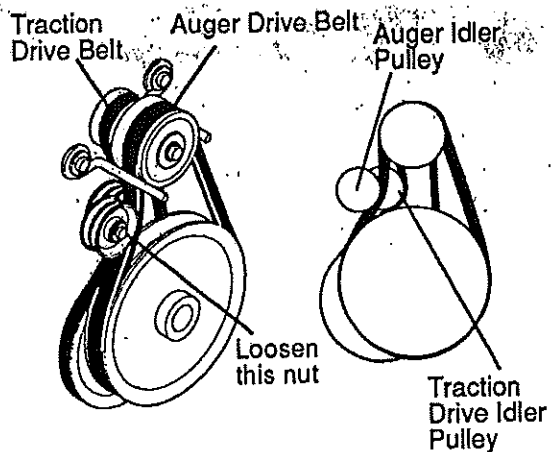

FIG. 3-SERV & ADJ
- Loosen the nut on the idler pulley (FIG. 3-SERV & ADJ) and move the pulley toward